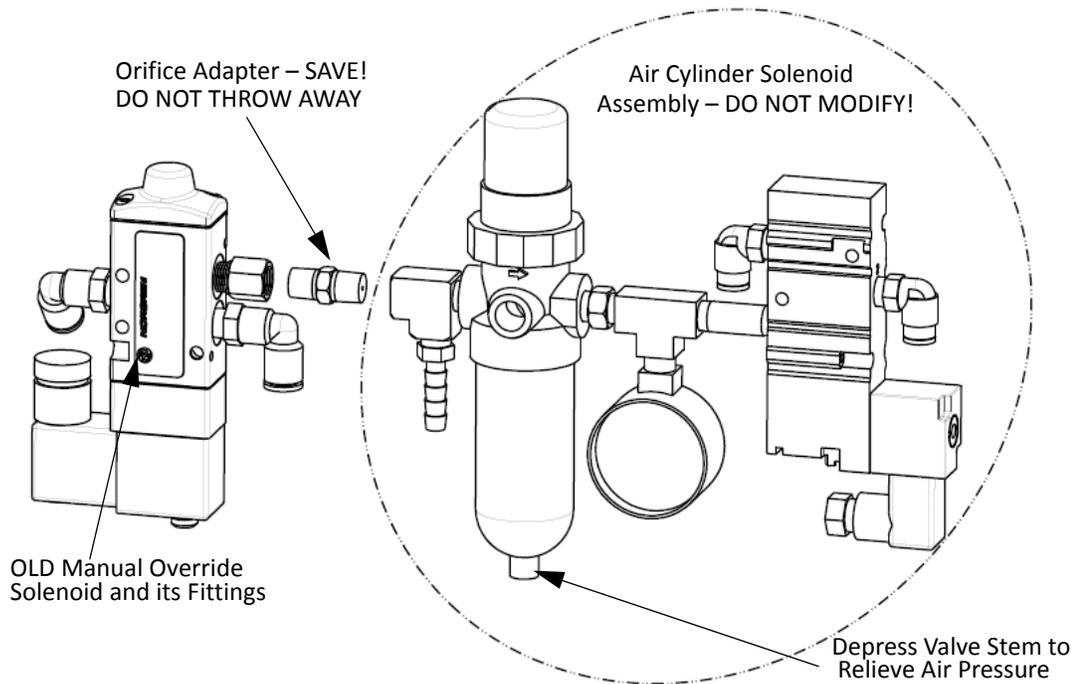

Figure 2.
5. Remove and discard the (2) hex head screws that hold the manual override solenoid mounting bracket to the electrical box.
6. Depressurize air delivery system by depressing valve stem on the bottom of air regulator/filter bowl, see Figure 2.
10. Remove the OLD manual override solenoid and its fittings, see Figure 2.